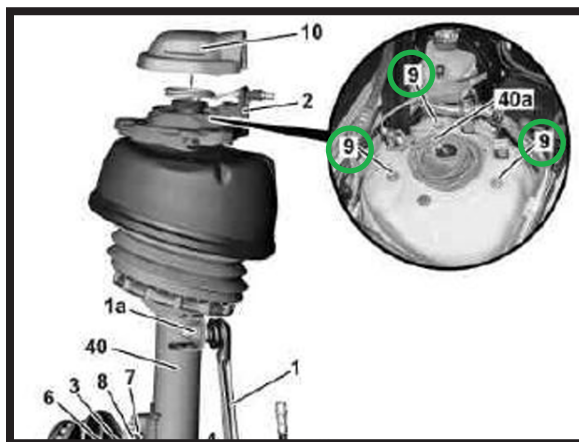

FIGURE 9 - #9
10. LOOSEN AND REMOVE THE UPPER MOUNTING BOLTS FROM THE STRUT TOWER. (FIGURE 9 - #9)